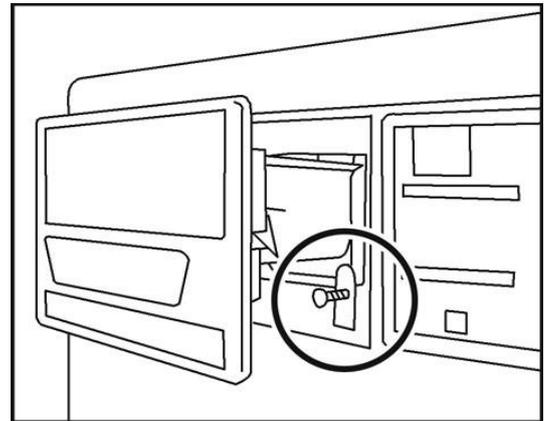

Fig. 10.1
- Open the dispenser drawer and loosen the screws on the retaining tabs visible along the bottom (Fig. 10.1).